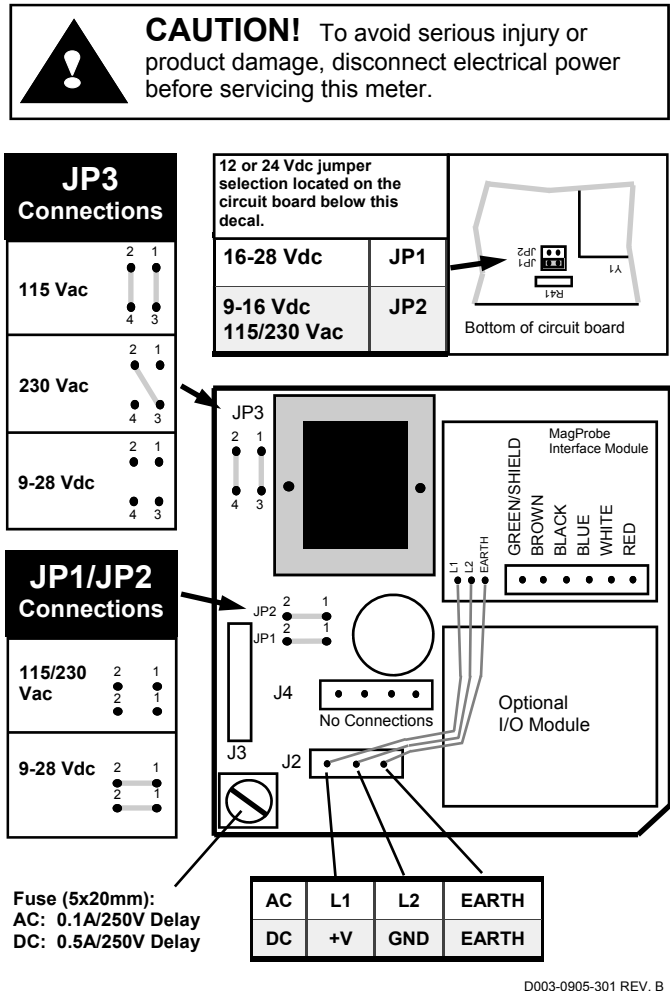
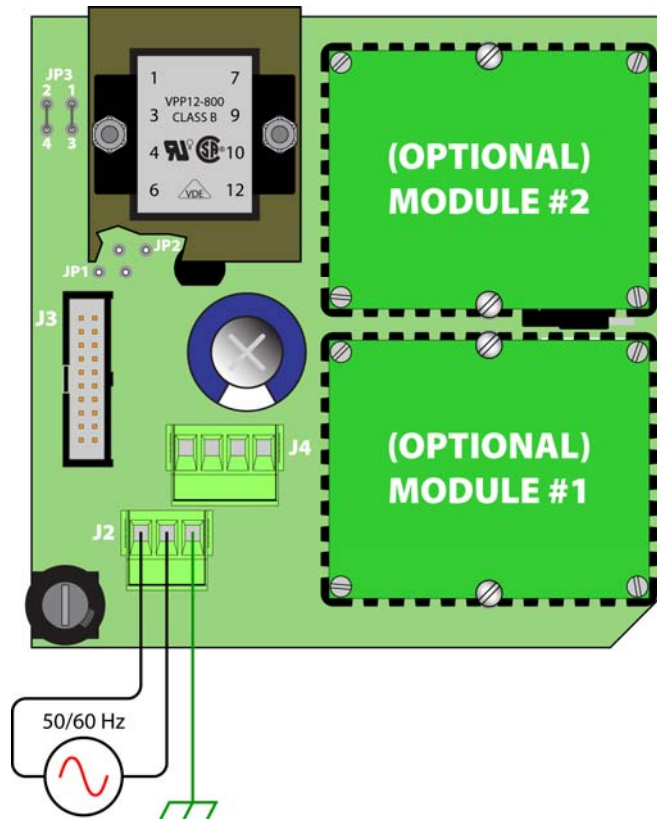

Figure 1.7
Figure 1.8
Connect line power to the screw terminals marked L1, L2 and Earth in the transmitter. See **Figure 1.7** and **Figure 1.8**. Utilize the conduit hole on the left side of the enclosure for this purpose. Use wiring practices that conform to local codes (National Electric Code Hand book in the USA). The Earth ground terminal grounds the instrument, which is mandatory for safe operation and optimum flow meter performance.
2. Connect L1, L2 and earth to the terminals referenced in **Figure 1.7** on page 1.12. Phase and neutral connections to L1 and L2 are not polarized. Do not operate without an earth ground connection.
3. See **Figure 1.8** for AC connection schematic. Wire gauges up to 14 AWG can be accommodated in the MFX terminal blocks.
1. Verify that the jumpers are properly placed. See the wiring diagram located on the inside door of the MFX enclosure or see **Figure 1.7** on page 1.12. The jumpers at JP3 should not be present and the jumpers at JP1 and JP2 will be in place. The jumper located beneath the microprocessor protection shield – the panel with the wiring diagram label mounted on it – should be positioned at JP2 for 9-16 Vdc input power and in JP1 position for 16-28 Vdc input power.